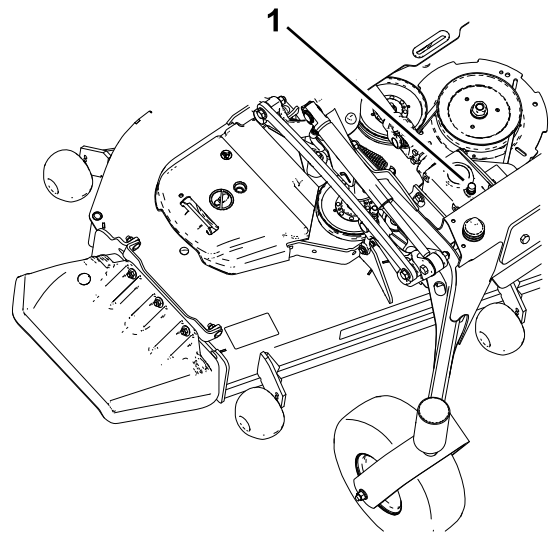

Figure 3
6. Remove the dipstick/fill plug from the top of the gearbox and ensure that the lubricant is between the marks on the dipstick (Figure 3).